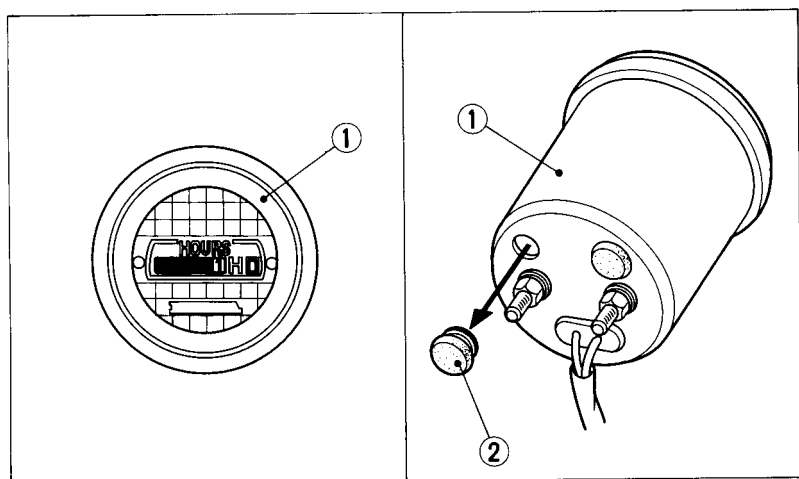

Fig. 2-16
The hourmeter (Fig. 2-16) shows hours and tenths of hours that the engine has run. It is operated when the ignition switch is turned ON, providing accurate means of knowing when the TRX300FW is to be serviced. Remove the rubber cap (2) below the hourmeter when the meter glass is clouded. Reinstall the cap securely after the meter glass becomes cleared.